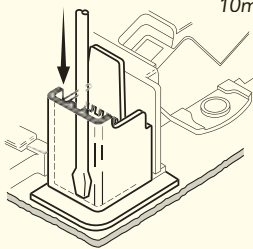
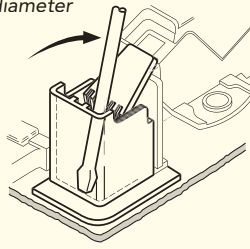

Figure 6a
Figure 6b
3. To pre-stress the clamp insert a flat bladed screwdriver into the cord grip as shown in fig. 6a and flex the clamping jaw open until it touches the grey base moulding fig. 6b. Then remove the screwdriver.